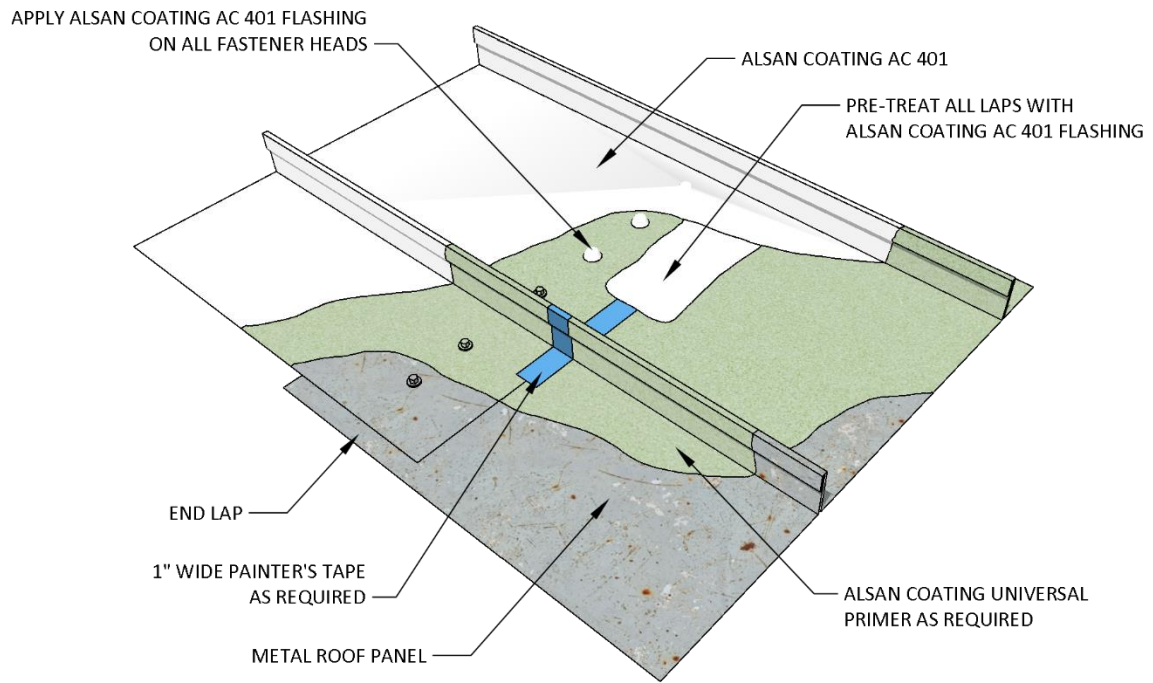

Figure 2.2m Acrylic Roof Coating Over Standing Seam Metal, Side/End Laps
- Refer to flashing detail guidelines indicated in Figures 2.2m through 2.2p.